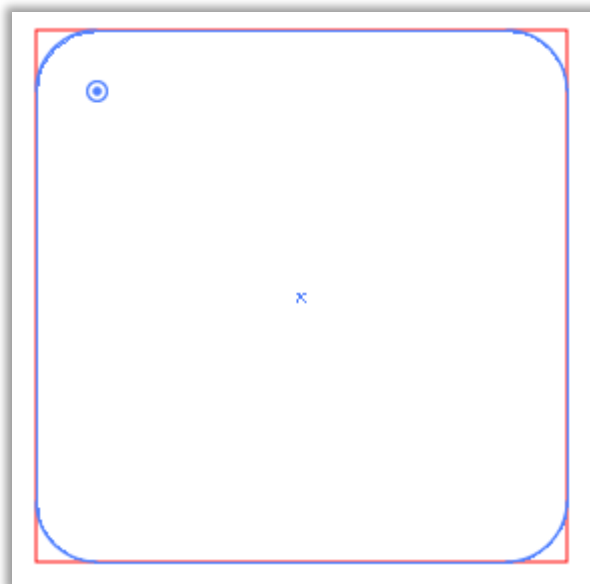

Figure 4: A rectangle in the process of getting its corners rounded.
- b. In each of the 4 corners, a little white and blue circle should appear. Click one of them, and drag it inwards to round the corners (**Figure 4**)